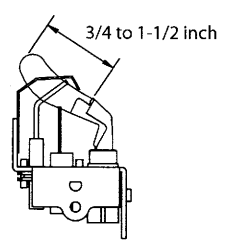

Figure 8
3. The manifold pressure must be adjusted to 10.0 inches water column (2.5 kPa). This manifold pressure applied to #57 main burner orifices assures that the input rating is correct for altitudes up to 2,000 feet (610 m). For altitudes above 2,000 feet (610 m), see (4) below. This is very critical as overfiring or underfiring can cause problems. Move the manual control on the gas valve to the "Off" position, connect the manometer to the pressure tap on the outlet side of the gas valve, turn the control on, fire the unit and adjust the pressure if necessary. To adjust the pressure, remove the cap from the pressure regulator on the gas valve, turn the regulator screw clockwise to increase pressure or counter clockwise to decrease pressure, then replace the cap.
6. The pilot flame should be  $\frac{3}{4}$  to  $1\frac{1}{2}$  inch (19 to 38 mm) in length (see Figure 8). To adjust the pilot flame, remove the pilot adjustment cover screw adjacent to the pilot tubing nut on the gas valve. Turn the inner screw clockwise to decrease pilot flame or counterclockwise to increase pilot flame. Replace the cover screw.